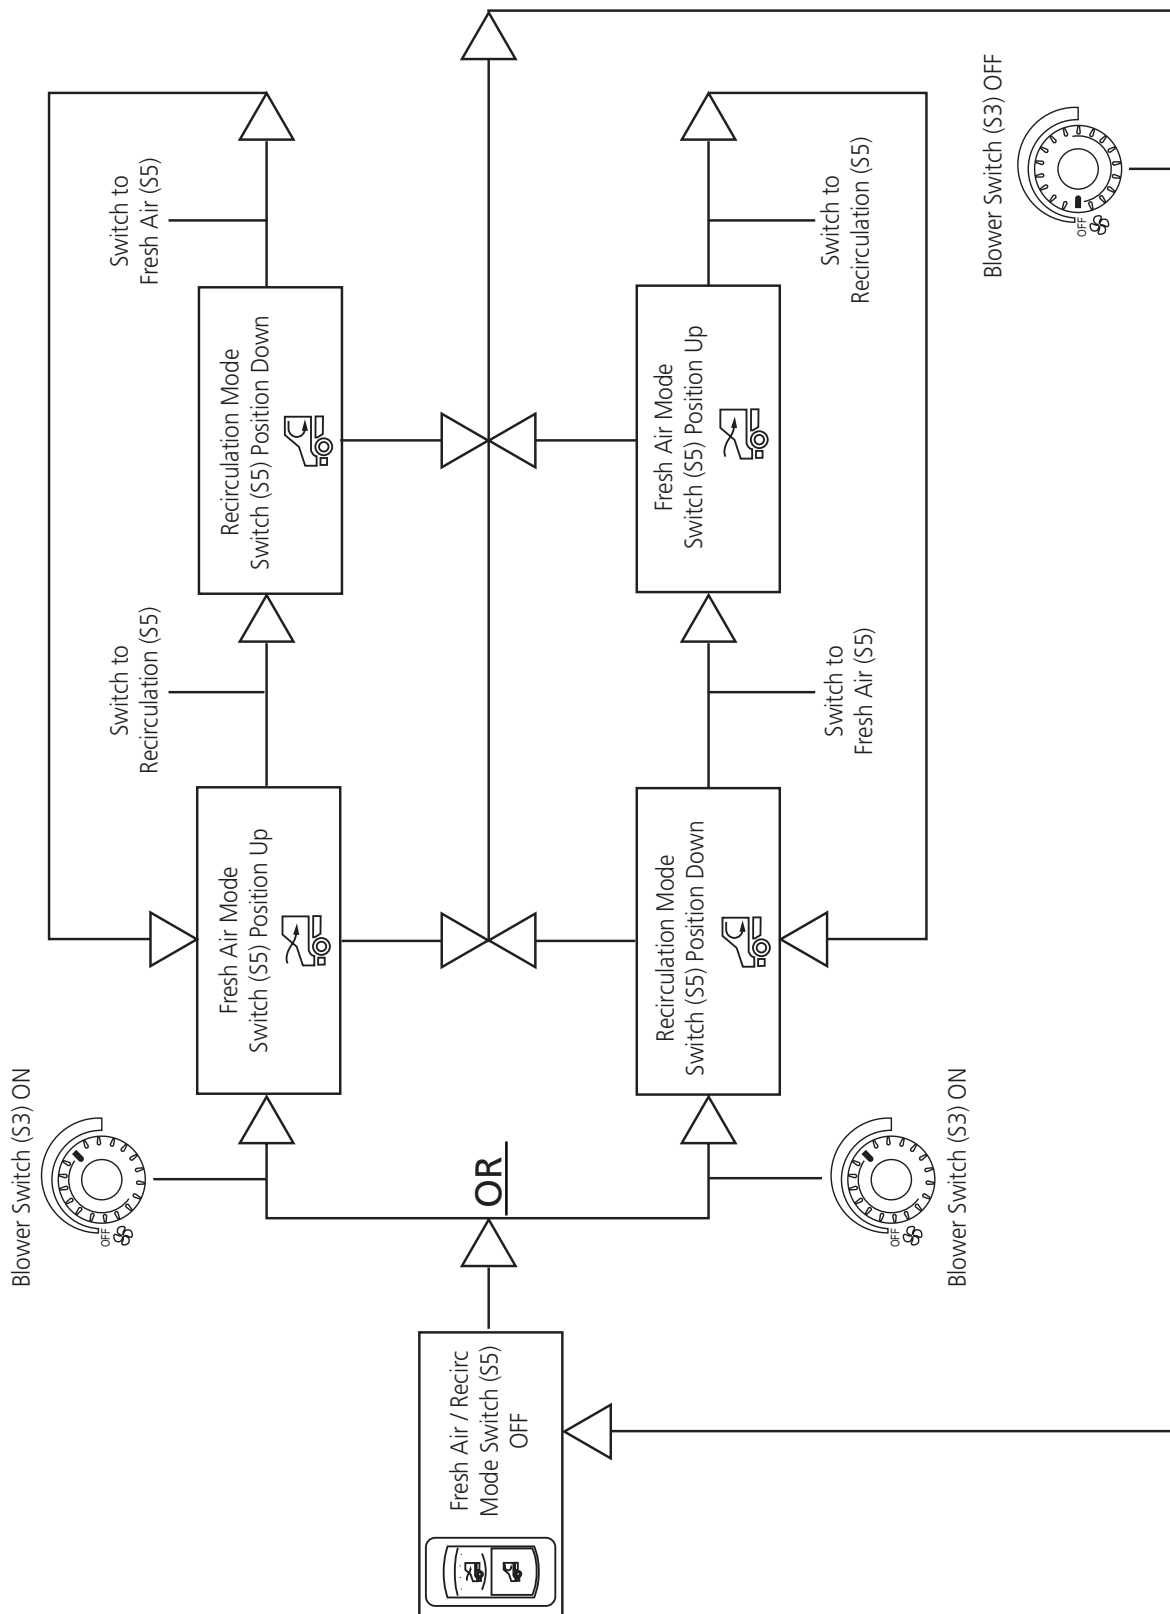
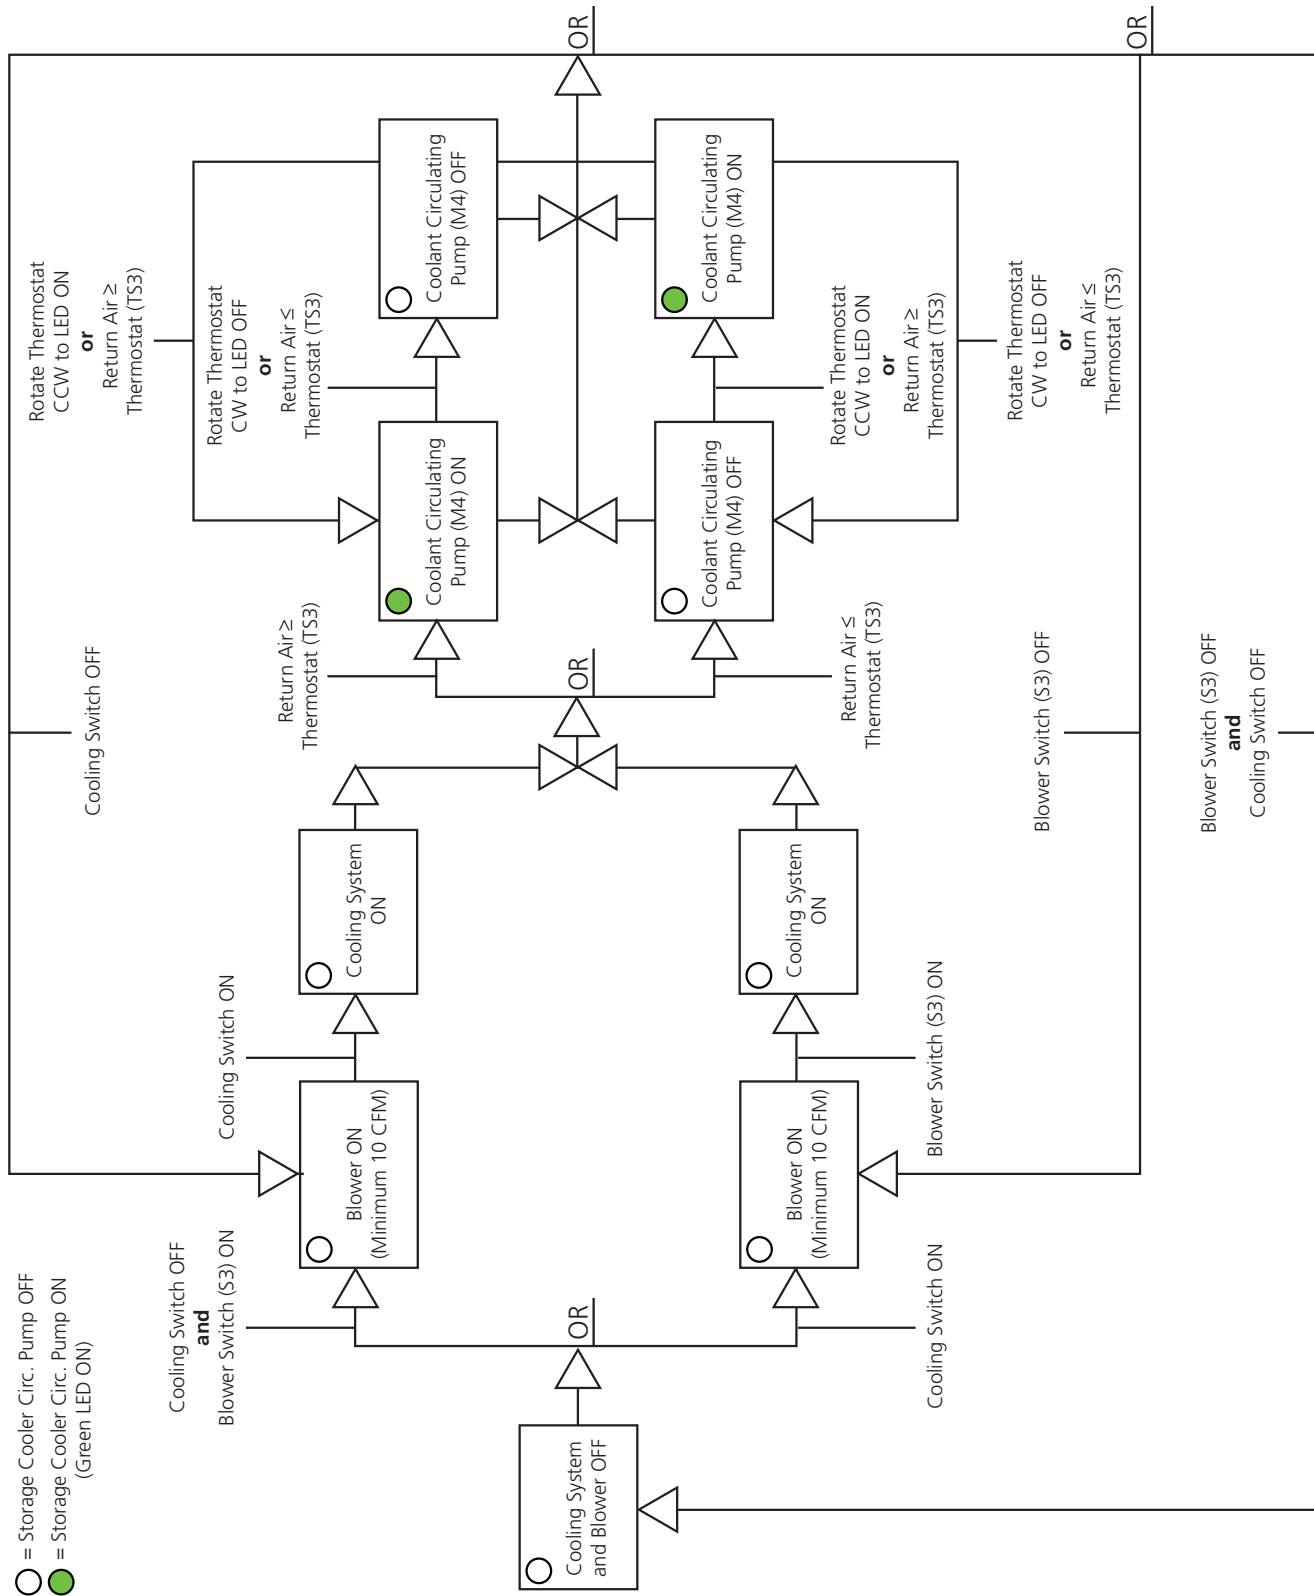

Figure 16. Fresh Air / Recirc. State Diagram
Figure 17. Cooling Discharge State Diagram
3.4.1 Discharging (Reference Fresh Air and Recirculation State Diagram, Fig. 16 and Cooling Discharge State Diagram, Fig. 17.)